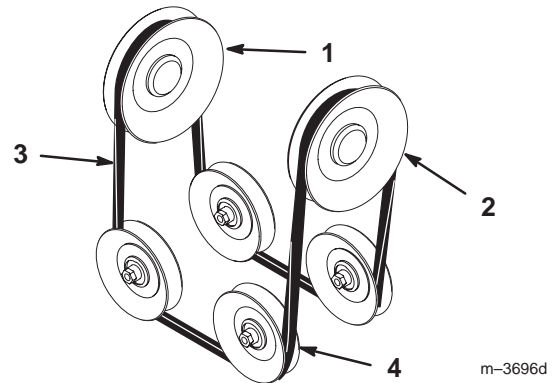

Figure 18
3. Route the snowthrower belt around the engine PTO pulley (Fig. 18).